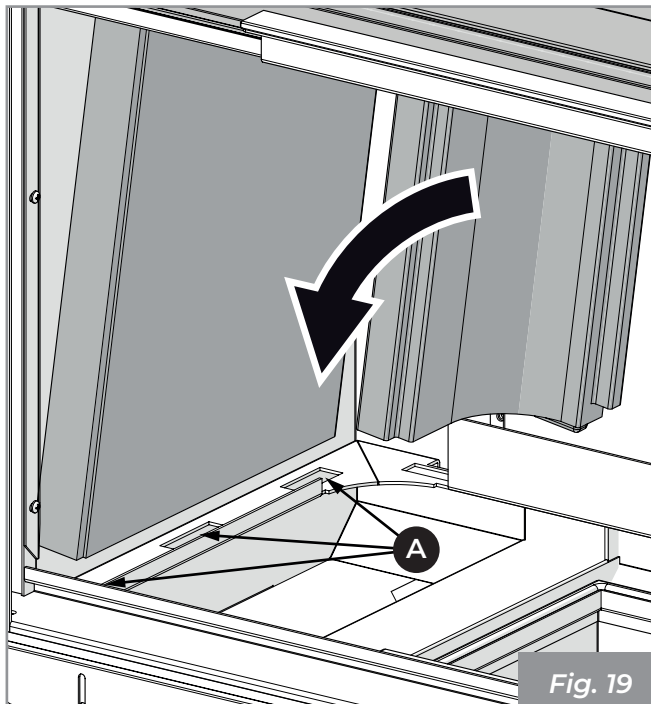

Fig. 19
- 1) Position the lateral refractory and the elbow being sure to insert them in the appropriate slots (A) (Fig. 19).